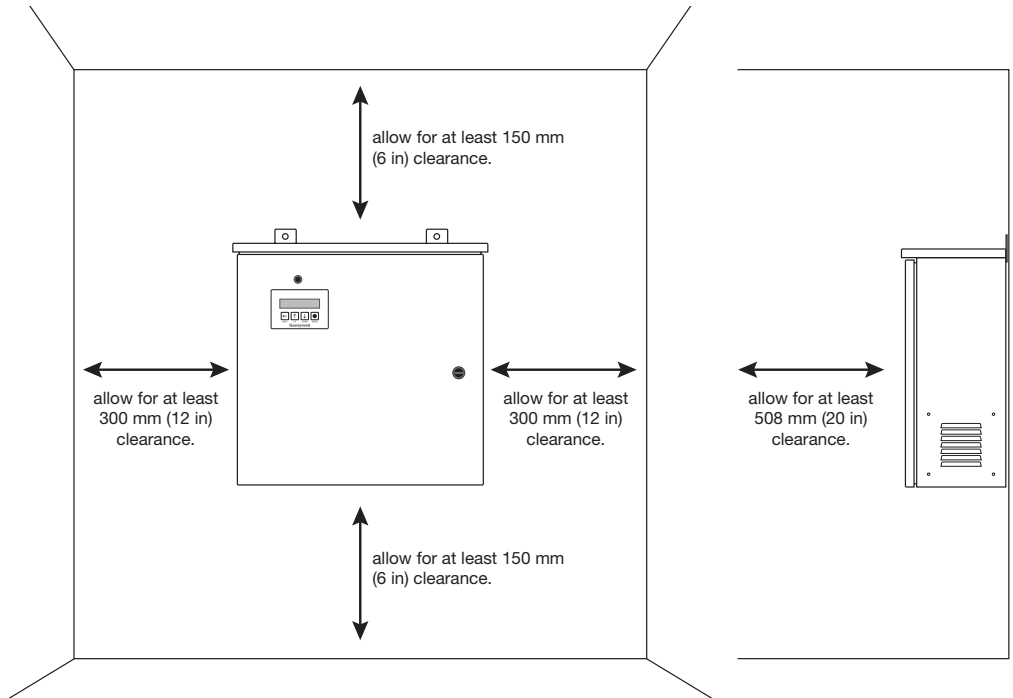

Figure 2.3 Minimum Clearance for Proper Mounting
1. Mount **SMARTBOX™** Controller to the wall per instructions on pages 9-10; Figure 2.3.